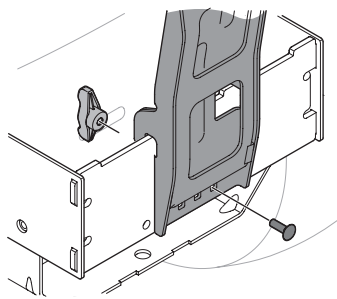

Figure 9
3. Secure the vertical bagger support to the cross mounting bracket using a carriage bolt (710-0276) and wing knob (720-04122) from hardware pack 689-02364. See Figure 9.